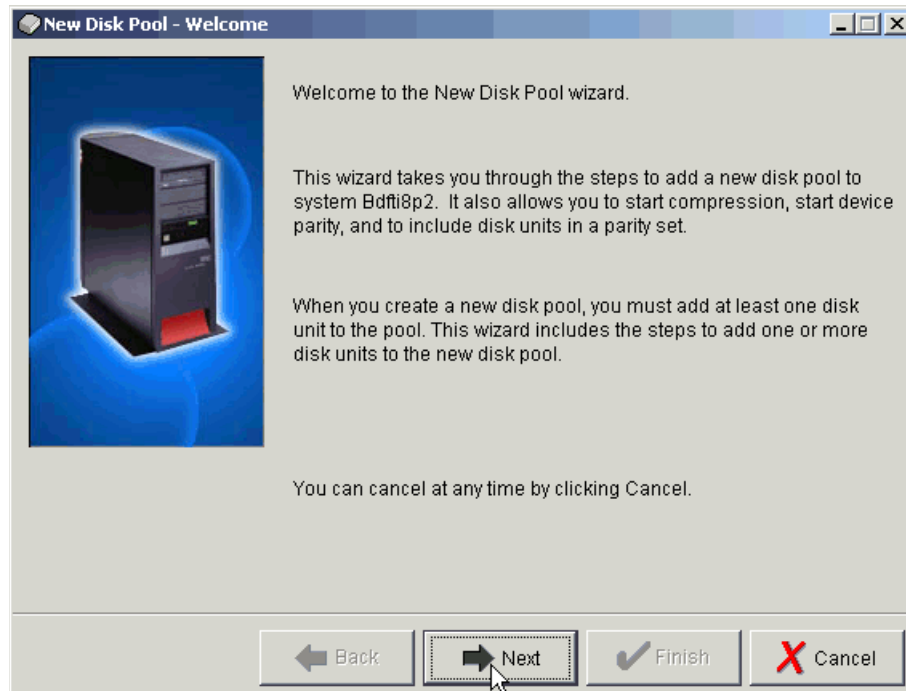

Figure B-11 New disk pool - welcome
6. The New Disk Pool wizard appears as shown in Figure B-11. Click **Next**.